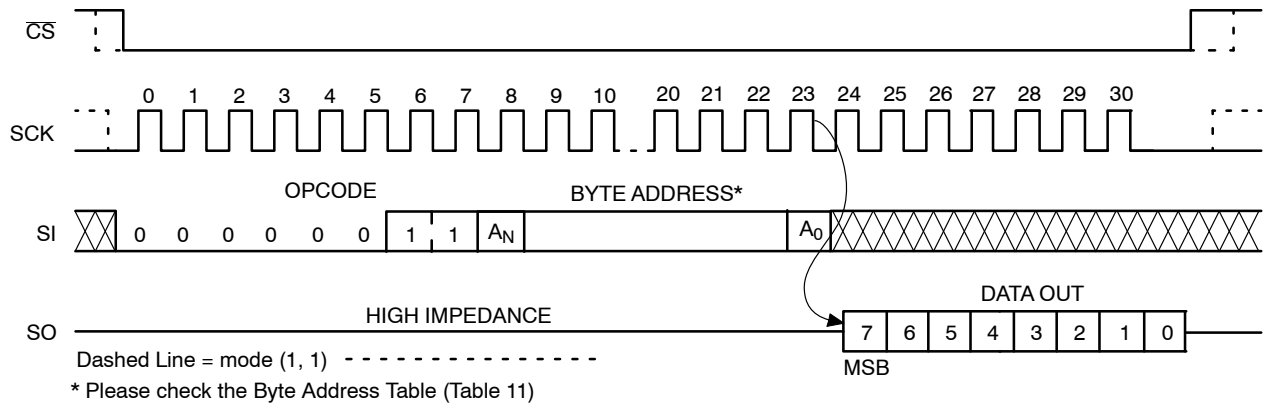

Figure 9. READ Timing
After receiving the last address bit, the NV25128 will respond by shifting out data on the SO pin (as shown in Figure 9). Sequentially stored data can be read out by simply continuing to run the clock. The internal address pointer is automatically incremented to the next higher address as data is shifted out. After reaching the highest memory address, the address counter “rolls over” to the lowest memory address, and the read cycle can be continued indefinitely. The read operation is terminated by taking $\overline{\text{CS}}$ high.
Reading the additional 64-byte Identification Page (IP) is achieved using the same Read command sequence as used for Read from main memory array (Figure 9). **The IPL bit from the Status Register must be set (IPL = 1) before attempting to read from the IP.** The [A5:A0] are the address significant bits that point to the data byte shifted out on the